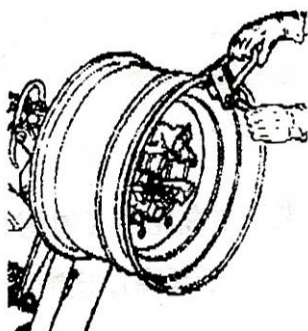

Fig2.6
- 2) Tighten the outside of the tire in the highest position by using wheel circle clip (Fig2.6).